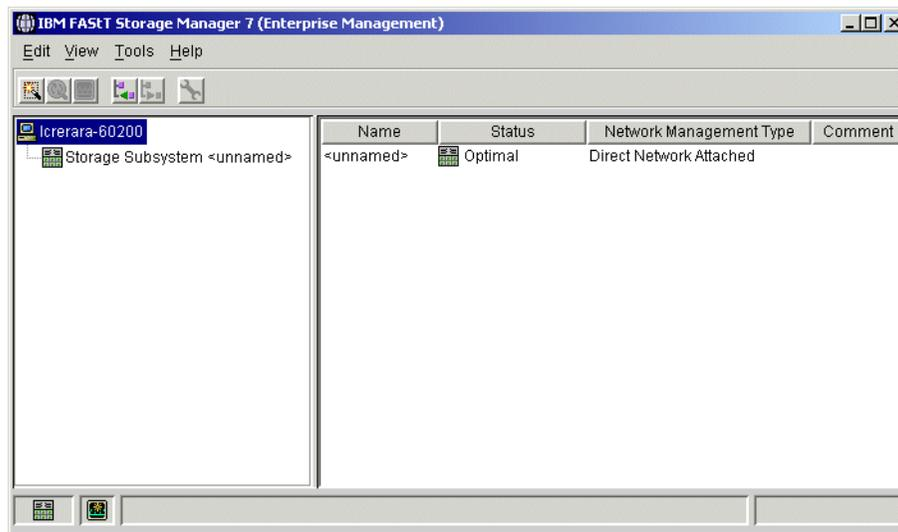

Figure 5-8 IBM Storage Manager 7 (Enterprise Management) window
3. The Storage Manager 7 Enterprise Management window is displayed, as shown in Figure 5-8: